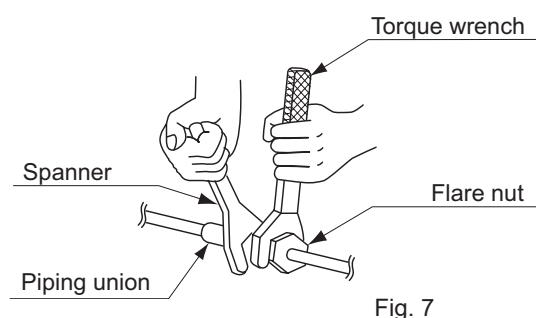

Fig. 7
- Be sure to use both a spanner and torque wrench together, as shown in the diagram, when connecting or disconnecting pipes to/from the unit. (Fig. 7)